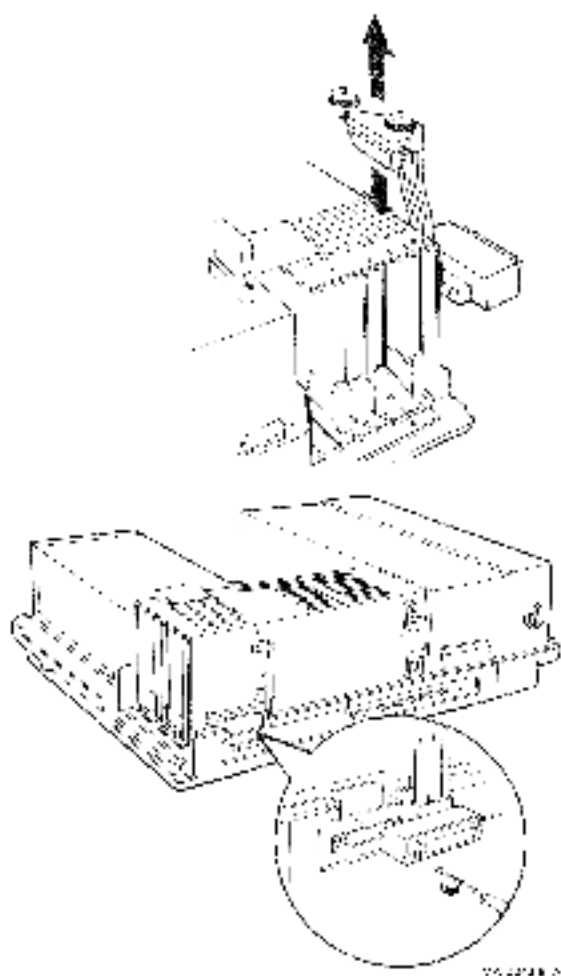

Figure 2-50 Removing Internal Cabinet
2. Remove the internal cable by unscrewing the two screws at the top of the cable and the two screws at the bottom connector (Figure 2-50).